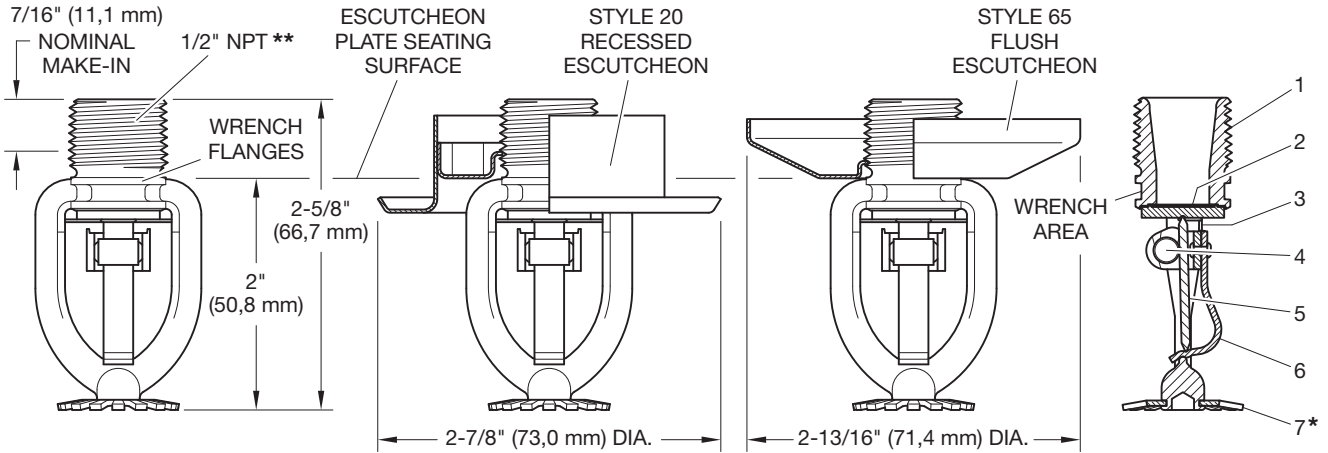

FIGURE 1
reference to Figures 1 or 2, apply the W-Type 9 Sprinkler Wrench to the wrench area.
Step 2. Tighten the sprinkler into the sprinkler fitting using only the W-Type 10 Recessed Sprinkler Wrench, See Figure 5. Apply the W-Type 10 Recessed Sprinkler Wrench to the sprinkler wrenching flanges, as shown in Figure 1.